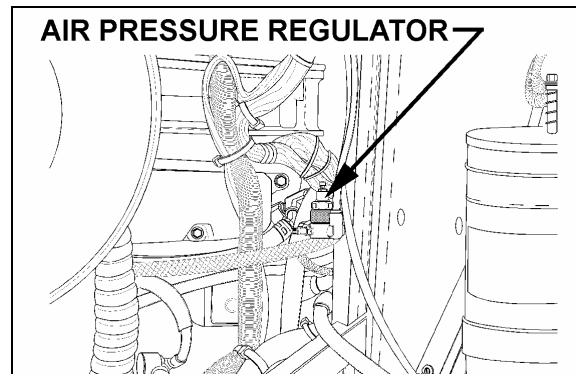

FIGURE 19: AIR PRESSURE REGULATOR
17. Adjust the servo clutch pressure to 40 psi with the air pressure regulator. For more information, refer to Section 12, "BRAKE AND AIR SYSTEM", under heading "AIR PRESSURE REGULATOR". The regulator is located at back of engine compartment, on R.H. side (Fig. 19).
15. Adjust the servo clutch pressure to 40 psi with the air pressure regulator. For more information, refer to Section 12, "BRAKE AND AIR SYSTEM", under heading "AIR PRESSURE REGULATOR". The regulator is located at back of engine compartment, on R.H. side (Fig. 19).
22. Adjust the retarder pressure to 80 ± 3 psi with the air pressure regulator. For more information refer to Section 12, "BRAKE AND AIR SYSTEM", under heading "AIR PRESSURE REGULATOR". The air pressure regulator is located at back of engine compartment, on R.H. side (Fig. 19).